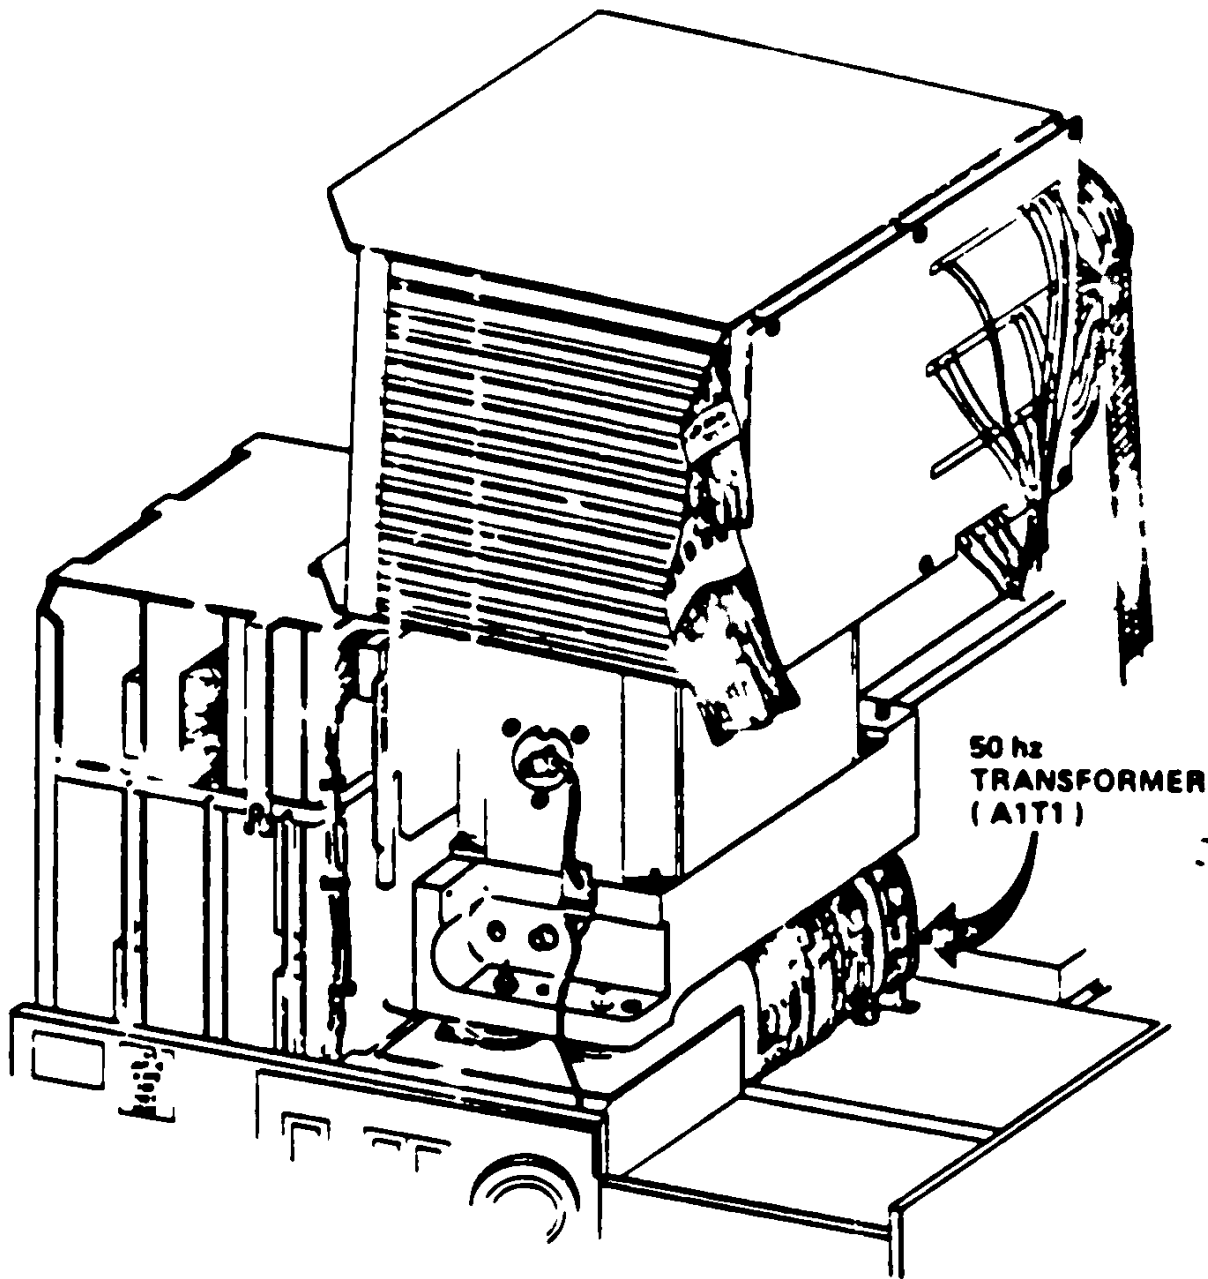

FIGURE 2
5. Locate the main (50HZ) Transformer (A1T1) as shown in FIGURE 2.